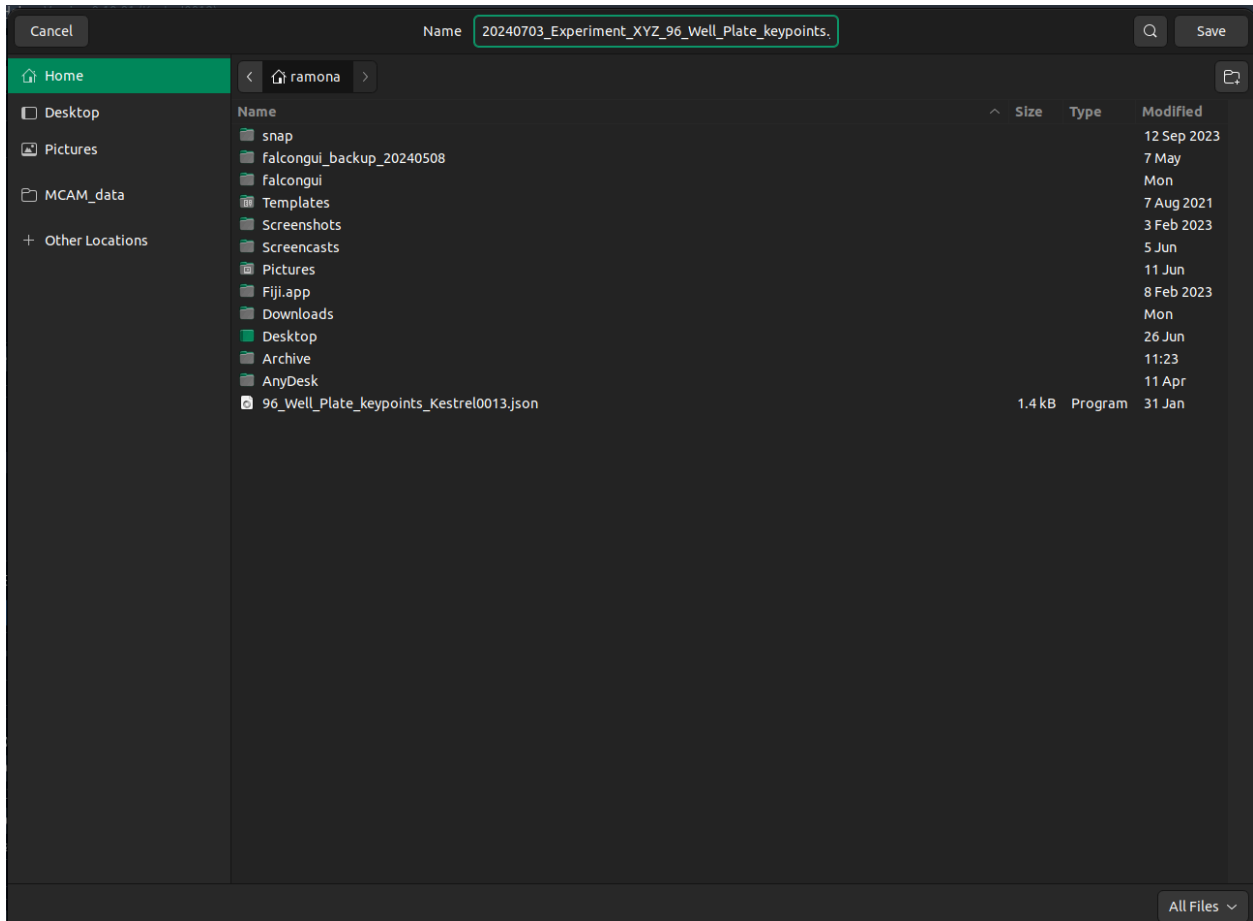

Fig 32: Format for saving well alignment.
- 9) Select a save location and file name for this “.json” file. We recommend file names with a date and/or experiment description as well as the well plate type (Fig 32).